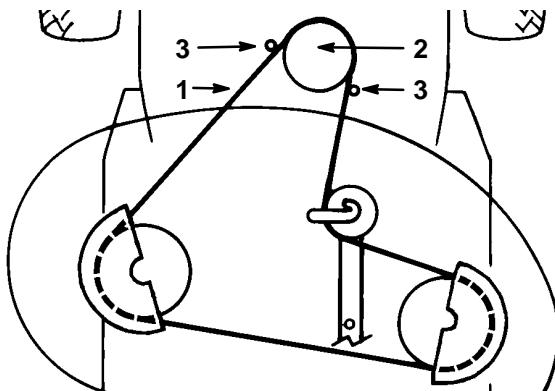

Figure 42
14. Remove the mower belt from the lower engine pulley (Fig. 42). If you are careful, you can flex the belt guide(s) just far enough away from the pulley to remove the belt. If it is too difficult to remove the belt, loosen the bolts and nuts securing the belt guides.
4. Install mower belt onto the lower engine pulley (Fig. 42). If you are careful, you can flex the belt guide(s) just far enough away from the pulley to install the belt. If it is too difficult to install the belt, loosen the bolts and nuts securing the belt guides.